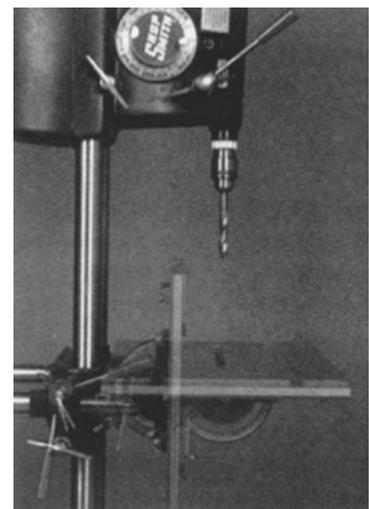

Figure 7-2. In the drill press mode, the table tilts from "0" to 90-degrees.
- The table tilts from "0" to 90-degrees (Figure 7-2).